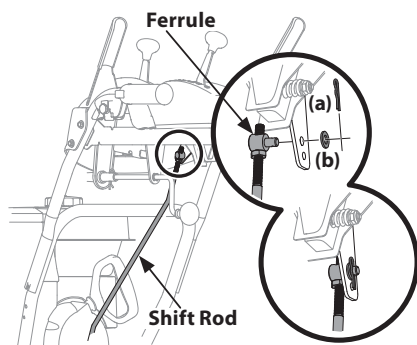

Figure 2-39
8. Remove cotter pin (a) and washer (b) from ferrule on end of shift rod. See Figure 2-39 inset.
10. Insert ferrule into top hole of shift lever and secure with cotter pin (a) and washer (b) removed in Step 8. See Figure 2-39. Ferrule may need to be adjusted up or down.